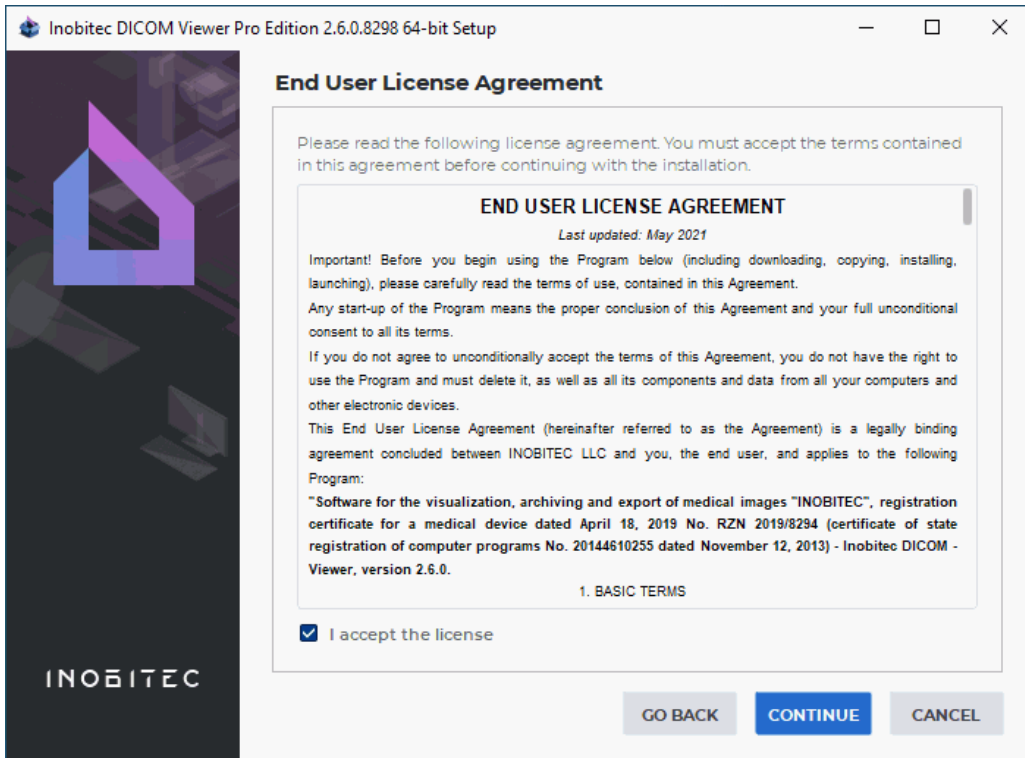

Figure 3: License Agreement
4. Read the License Agreement carefully. Its text is also available from the link <https://inobitec.com/eng/about/viewerLic/>. If you agree the terms and conditions, check the item **I accept the license** and click **CONTINUE** (Fig. 3). Otherwise click **CANCEL** and in the confirmation dialog box that appears click **Yes**.